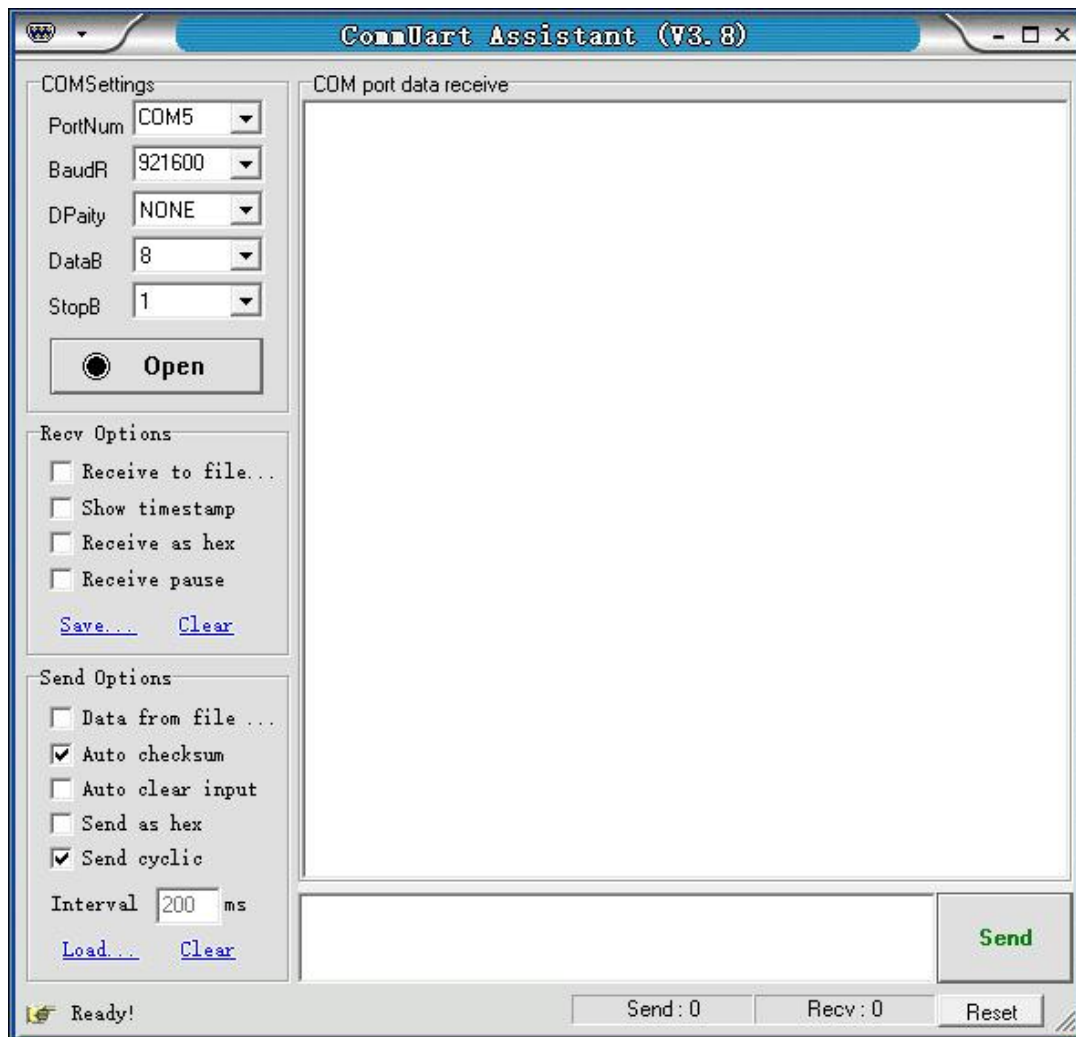

Fig.106 “CommUart Assistant” Software Display
3. Open the folder 'Uart Driver' in your disk and double click the file 'UartAssist.exe'. It will call out the software interface, as is shown in Fig.106.